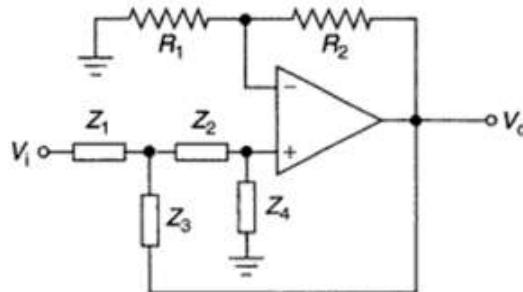

Figure 17.57: Generalized form of second-order Butterworth filter
- Here is how it works (Figure 17.57):